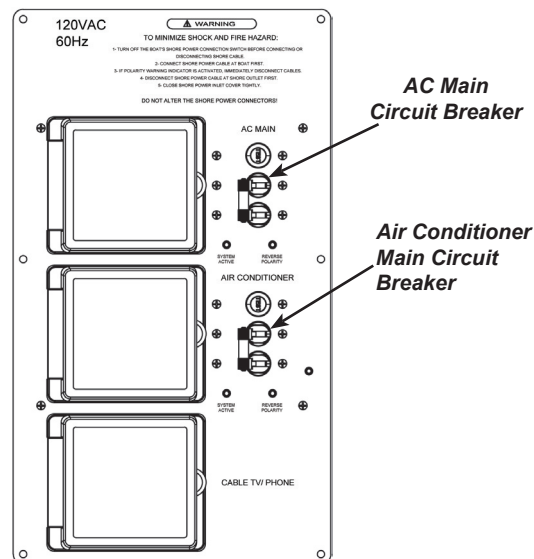

Figure H30: Shore Power Inlet (Representative View - Models May Vary)
6. Turn the SHORE main breakers at the AC cabin panel and at the dockside outlet (if applicable) to the “ON” position. See Figure H30.
1. Turn the main (SHORE) circuit breaker switches to the “OFF” position located on the AC panel and at the dockside inlet of the boat (certain models only). See Figure H30.
conditioner(s) and seawater pump (if equipped) when placed in the “ON” position. Certain models have dual dockside installation. With a dual dockside installation, one inlet is dedicated to the air conditioner only and the other is for the “AC Main” If so equipped be sure to place the “AIR CONDITIONER circuit breakers on the shore power inlet to “ON” as well as ones on the cabin panel in order to operate. See Figure H30. Refer to Section L-4 - Air Conditioning in this manual for more information regarding the air conditioner.